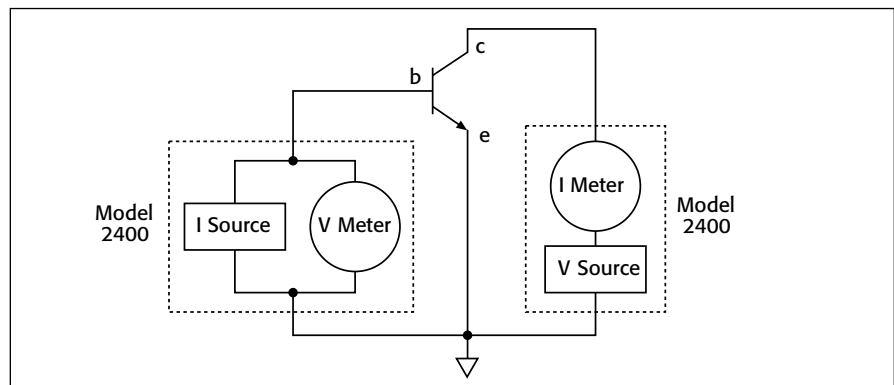

Figure 8. Transistor H_{fe} (current gain) by using two SourceMeter instruments.
- Transistor H_{fe} (current gain) by using one SourceMeter Instrument to source current into the base-emitter junction while measuring the collector current with a second SourceMeter Instrument forcing voltage across the transistor emitter-collector terminals. This measurement can be done in either pulse mode or DC. See Figure 8.